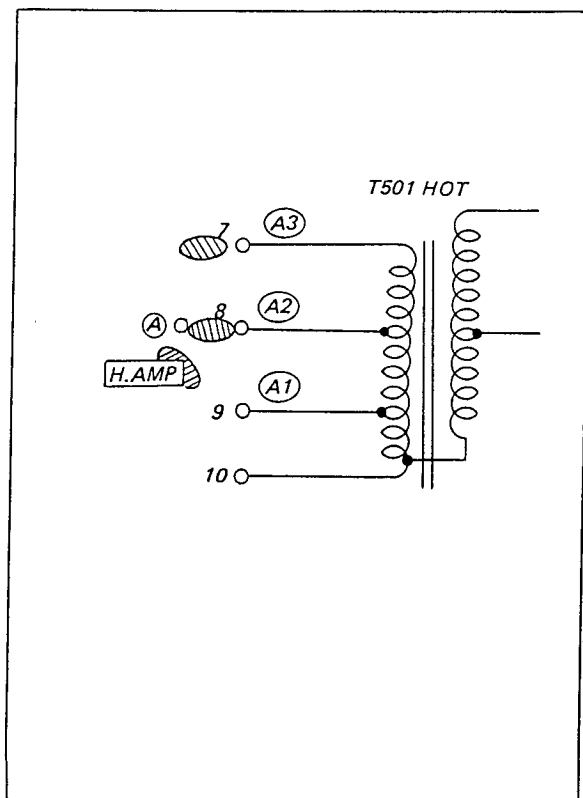

Fig. 3-10. Adjustment portion on the VH board
2. Try connecting (A) to (A1), (A2) or (A3) on the printed pattern (one by one) of VH board (H. AMP). See Fig. 3-10. Make the bridge which gives best results permanent.